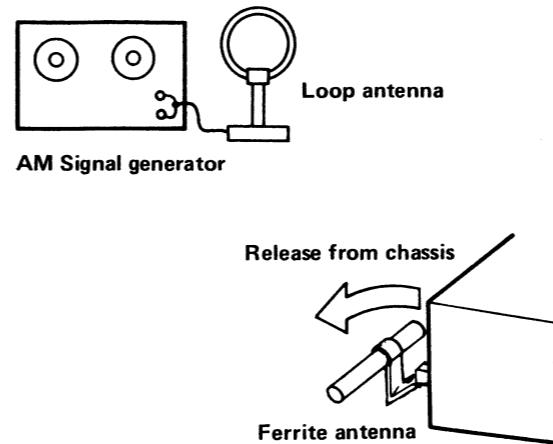

Fig. 5
2. Set signal generator to AM function, 30% modulation with 400Hz. Connect loop antenna to generator RF output and place near receiver's ferrite loop-stick antenna. See Fig. 5.